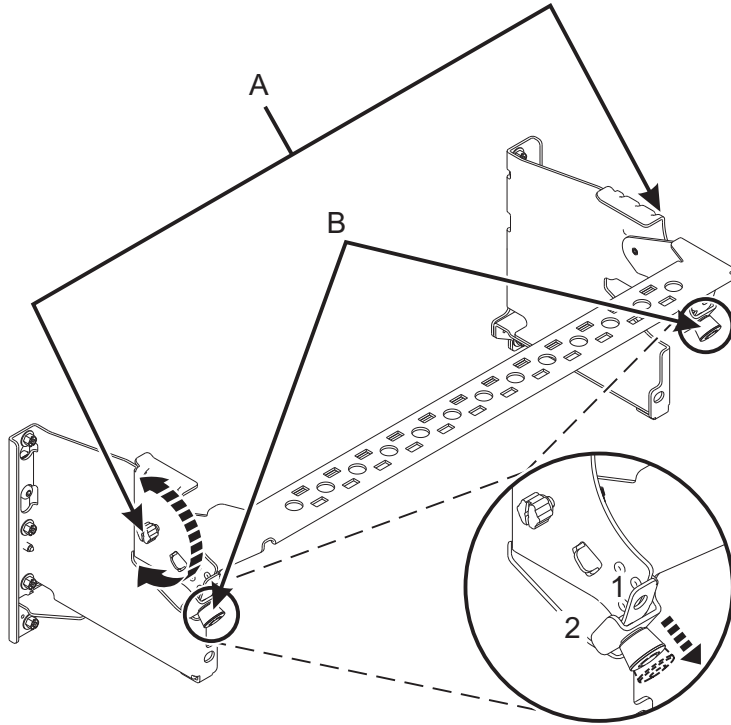

Figure 36. Placing the cable management bracket in the operating position
6. Put the cable management bracket in the operating position. See Figure 36 on page 35.